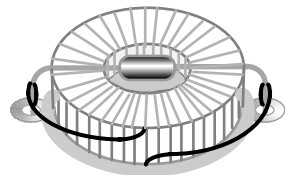

Figure 6-22
- Solder L33's leads to the leads of the resistor points as shown in Figure 6-22. Keep L33's leads as short as possible, and away from any nearby component pads.